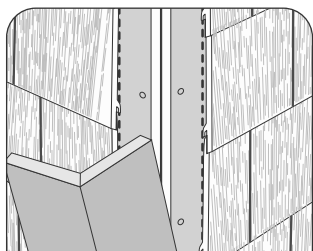

Fig. 13
- Install the panel securing it by placing nails along the cut edge of the panel approximately every 16." The head of the nails will hold the panel back to the wall and the shaft of the nail will keep the panel from raising and becoming unlocked from the panel below it (Fig. 12). Pin each panel in place by placing one nail through the panel itself toward the middle of the panel (Fig. 13).